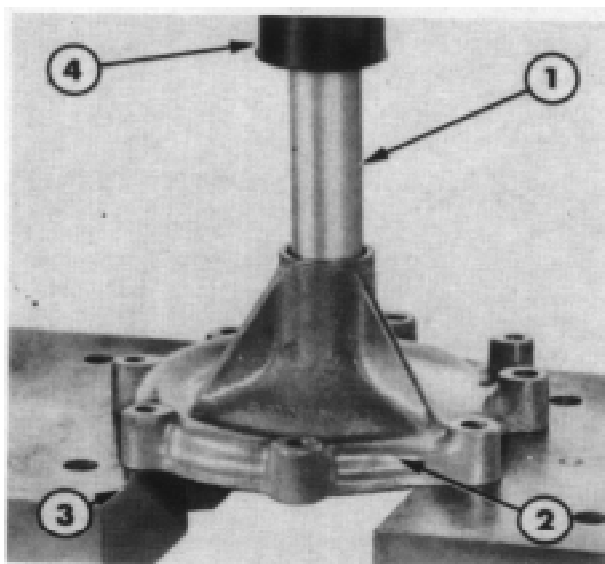

Figure 4
4. Using an arbor press with a piece of pipe or a sleeve of 1 in. (25.4 mm.) I.D. and 1 1/8 in. (28.6 mm.) O.D. over the shaft and positioned on the outer case of the bearing, press the bearing assembly, shaft and impeller out of the pump housing. Figure 4.